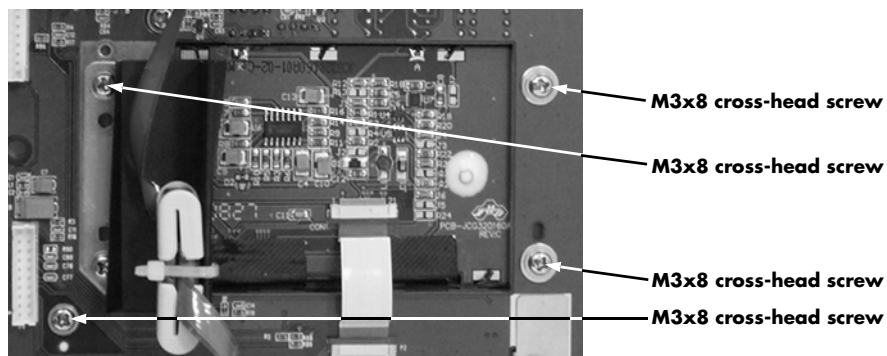

FIGURE 4-7 Remove four (4) M3x8 cross-head screws.
2. Remove the four (4) M3x8 cross-head screws (as shown in Figure 4-7).